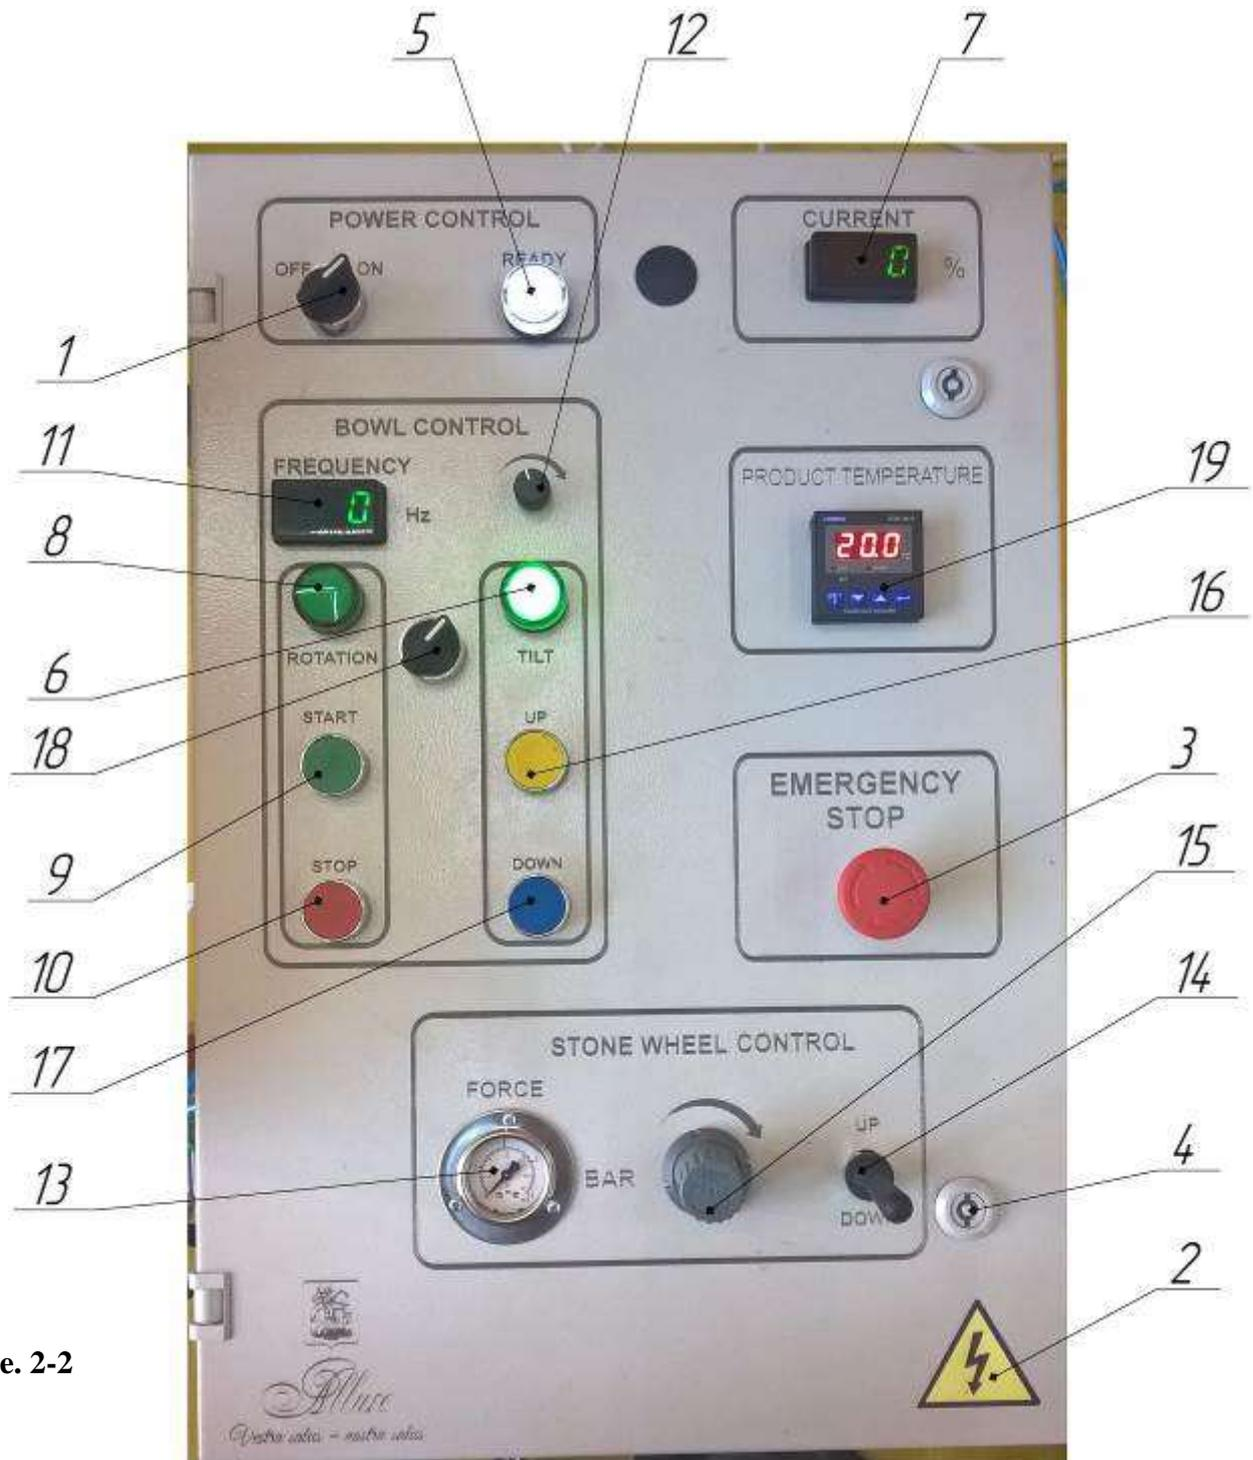

Figure. 2-2
The controls are located on the Melanger control cabinet (fig. 2-2).
|  | <p>Electric danger that threatens the life and health of people, and can also cause great damage to property. The sign is located on the control cabinet door figure 2-2. (POS. 2)</p>   |
Access to the control cabinet is excluded by locking it with a detachable key (pos. 4 fig. 2-2).